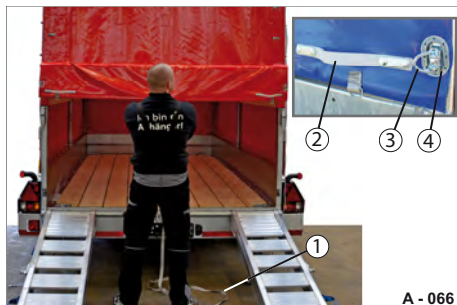

Fig. 70 Closing curtain section
- ▶ Slowly pull down the curtain section using the operating belt (Fig. 70/1).
- ▶ Grip the handle grip (Fig. 70/2) on both sides and pull the eye (Fig. 70/4) over the cramp (Fig. 70/3).